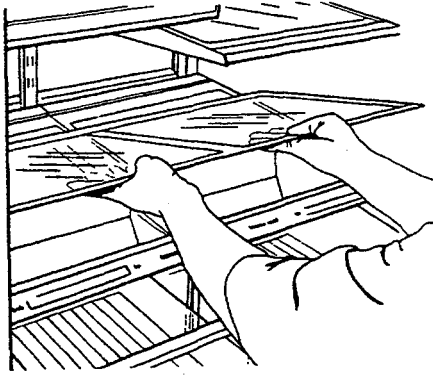

Figure 29
- f. Grasp shelf with other hand and tilt glass upward at one end and remove from refrigerator. See Figure 29.